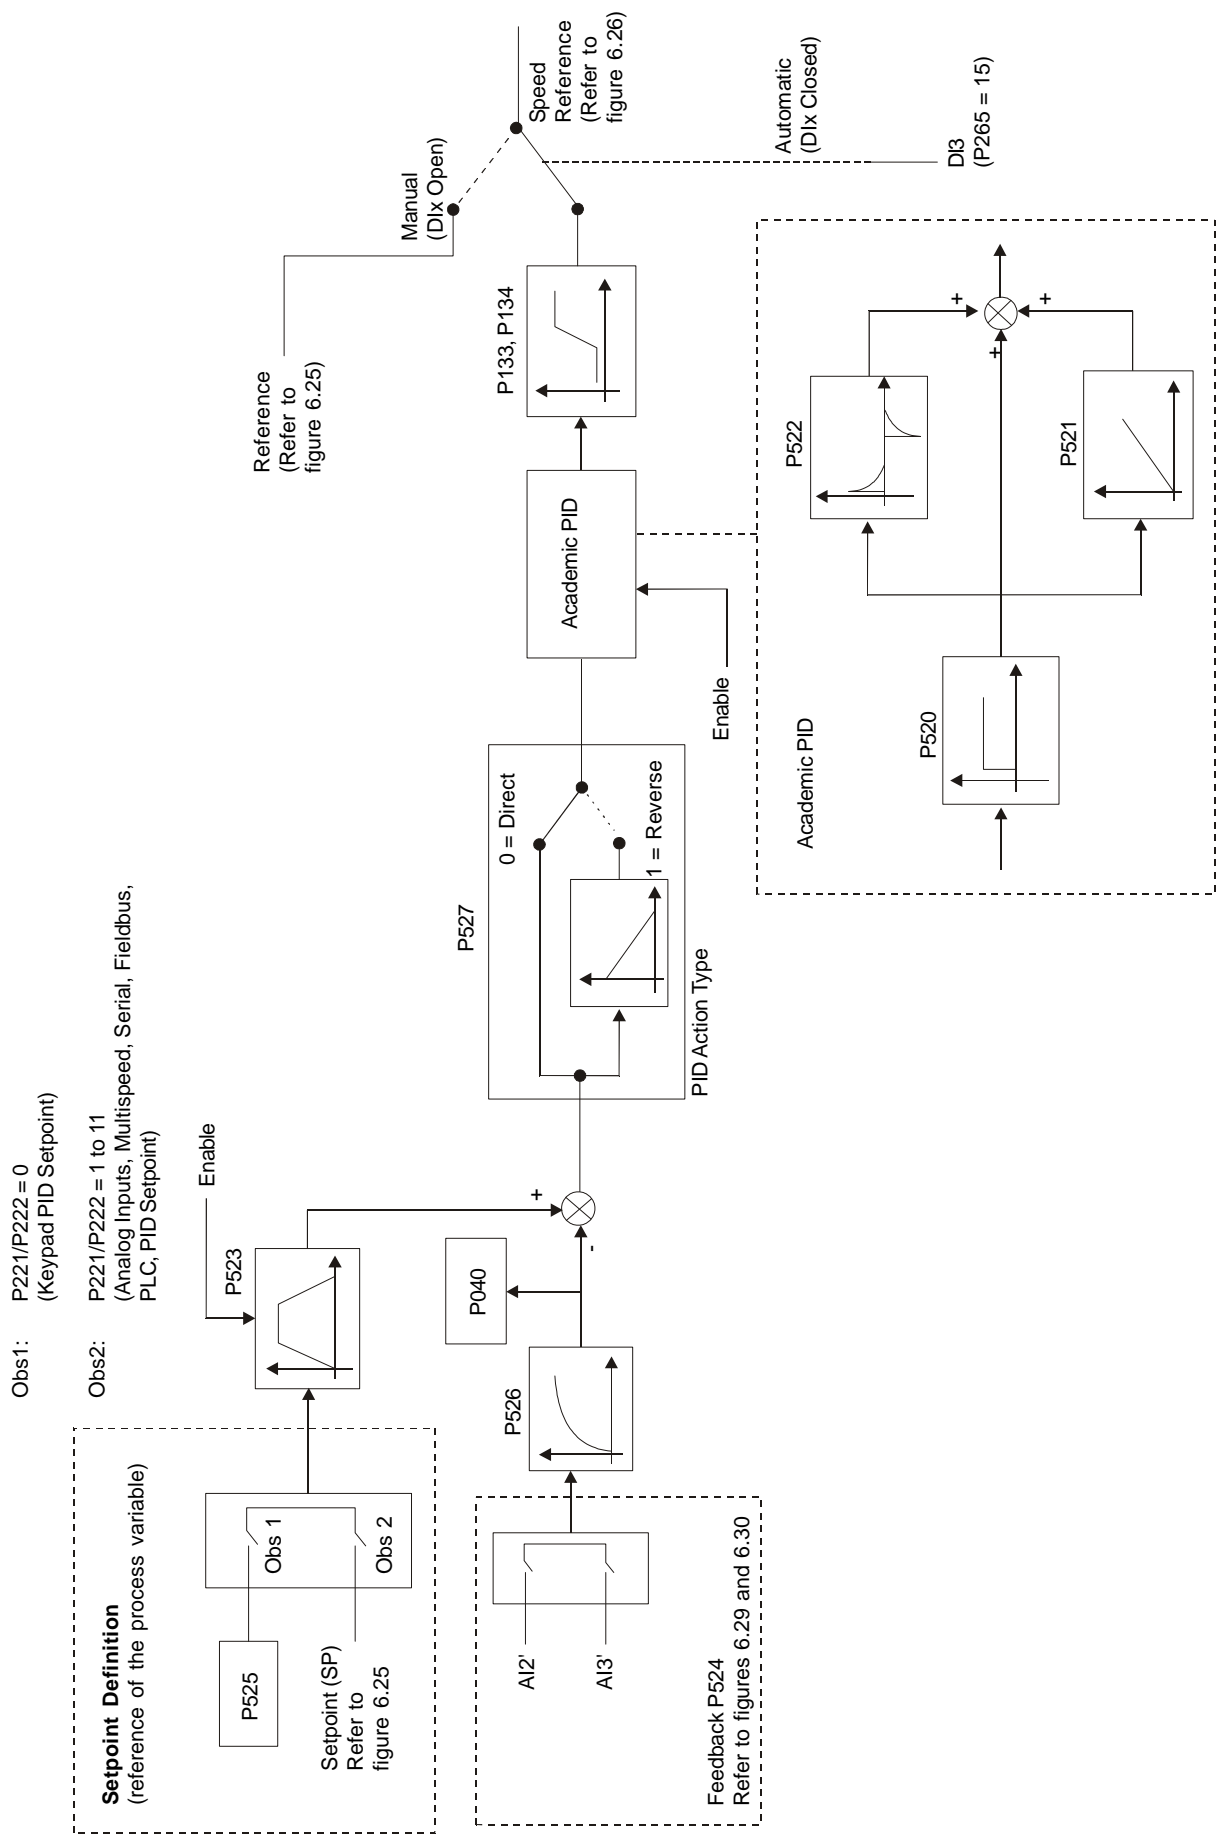

Figure 6.47 - Block diagram of the PID regulator function
- ☑ Figure 6.47 shows the block diagram of the Academic PID regulator.